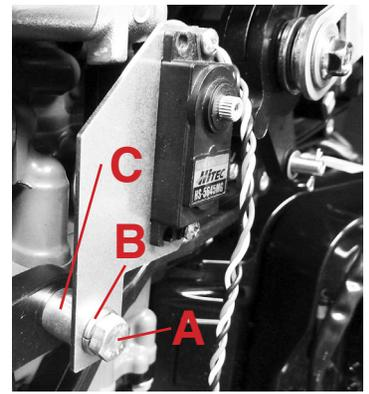
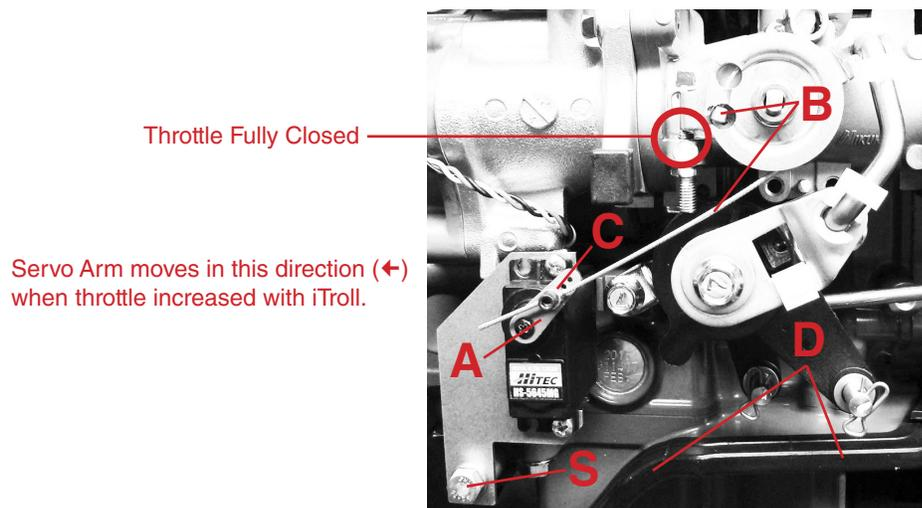

Fig 10
Fig 11
**Step 11: See Figs 10 & 11**
- Place supplied bolt (A), lock washer (B) and spacer (C) on servo bracket.
- Remove stock Suzuki bolt (Fig 11, "S") and install servo and bracket.
Step 16: See Fig. 11